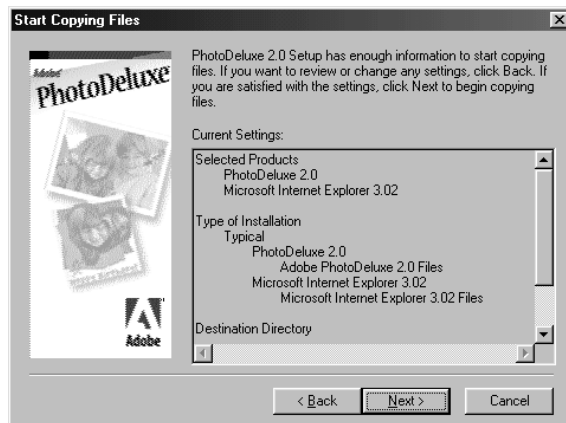

Figure 18: Installing Adobe PhotoDeluxe 2.0
10. The next screen will ask you to confirm the information you have provided. Click on 'Yes'. A screen as in Figure 18 is displayed.